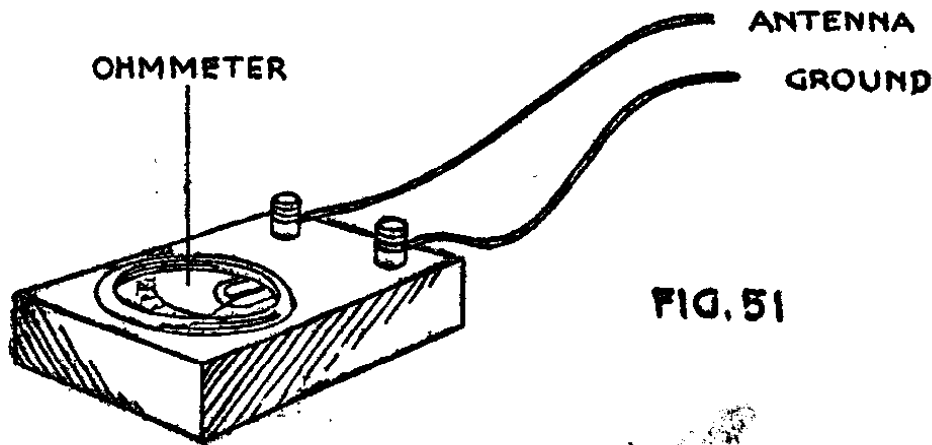

FIG. 51
*Testing an Antenna for Grounds:* Once you have determined the efficiency of a ground, you can test the insulation of the antenna. To be most effective, the antenna, of course, should be free from any contact with the ground, no matter how remote. The test consists simply of substituting an ohmmeter for the antenna and ground terminals of the receiver as shown in Fig. 51. Since there should be no complete circuit between your antenna and ground, no reading should show on the ohmmeter.